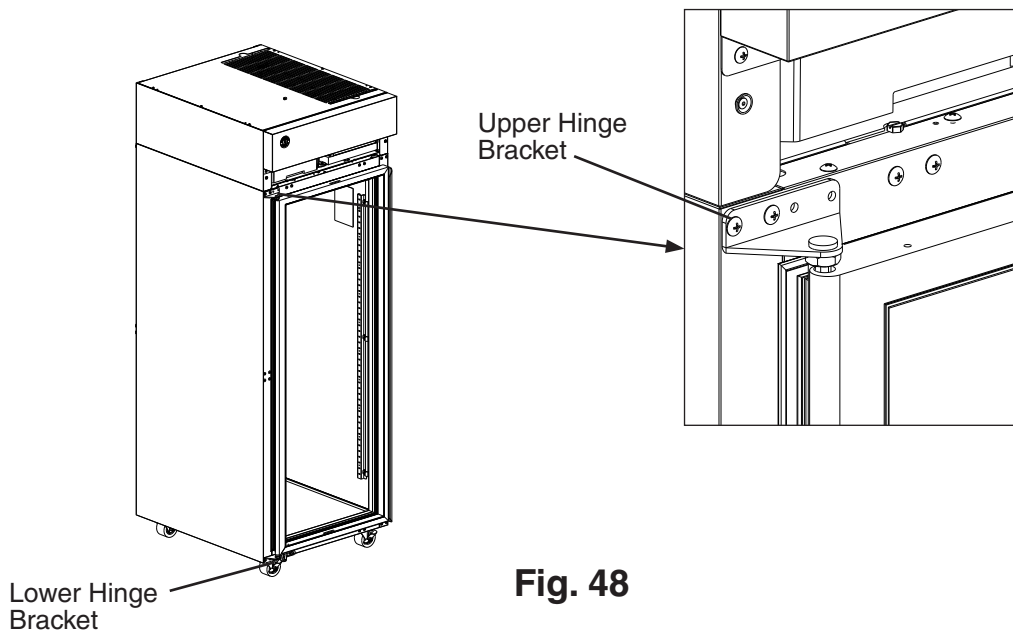

Fig. 48
17) Place the door on the lower hinge bracket in the closed position, then secure the upper hinge bracket to the cabinet. See Fig. 48.